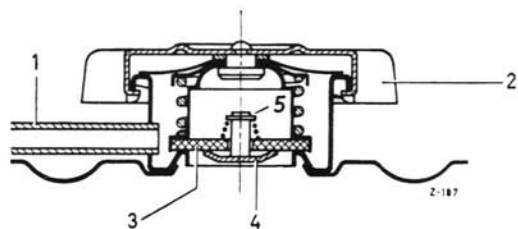

Fig. 50—0/2 (Basic diagram)
The closing cover of the coolant compensating tank is provided with a pressure relief valve (3), which limits the pressure prevailing in cooling system. When the pressure is too high, the pressure relief valve will open and permit the overflow line (1) to operate. Fig. 50—0/2.
Check valves (3) and (4) in closing cover for easy operation. The pressure relief valve (4) should not bind, since this would cause the coolant compensating tank to contract as the result of the respective vacuum. Fig. 50—0/2.